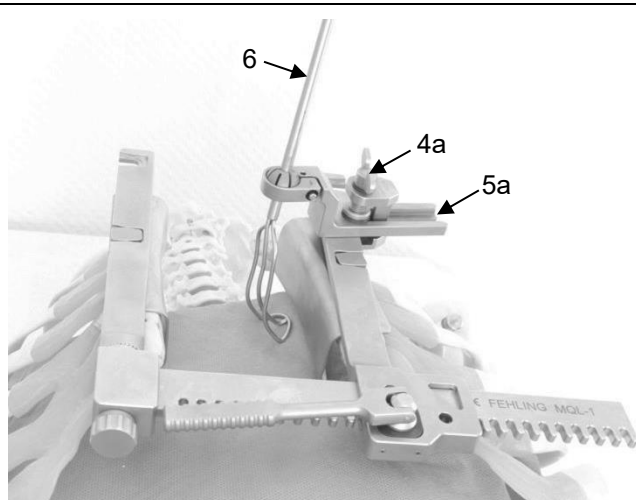

Fig. 9: Configuration example for the CEBOTARI universal sternal retractor with atrial hook
To position the atrial hooks (6) (see Table 2, page 10), these are attached to the retractor arms at any point (including in the area of the blades) using the MZZ-1Q clamping element (4a) and a suitable ball adapter (5a) (Fig. 9).